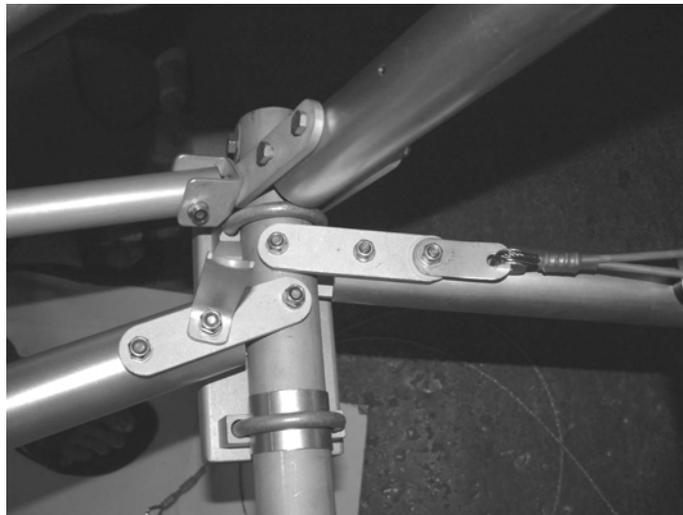

Figure 64; forward ends of lower tubes, rear to right of photograph.
d) Attach the lower tubes to the main undercarriage cross-beam, Figure 64.